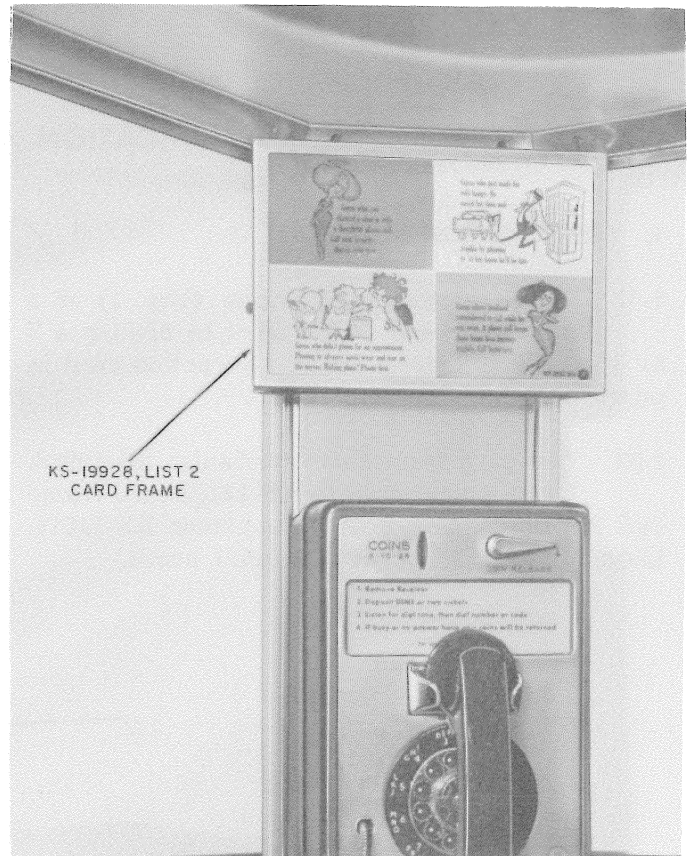

Fig. 3 — KS-19928, List 2 Card Frame Mounted in Corner of Telephone Booth
1.05 KS-19928, List 2: Consists of the same items as List 1 plus a 2-inch thick wedge-shaped mounting bracket (B-697116) (Fig. 1) used for mounting the card frame in the corner of KS-14611, KS-19425, and KS-19580 telephone booths (Fig. 3).